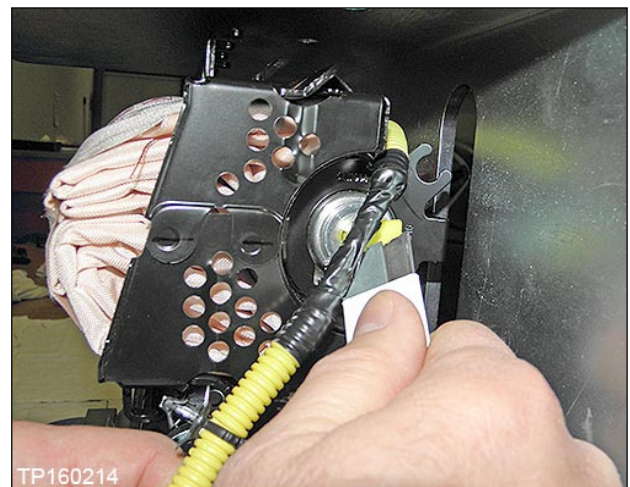

Figure 33
30. Carefully cut a few inches of the yellow corrugated harness cover in the area shown in Figure 33.